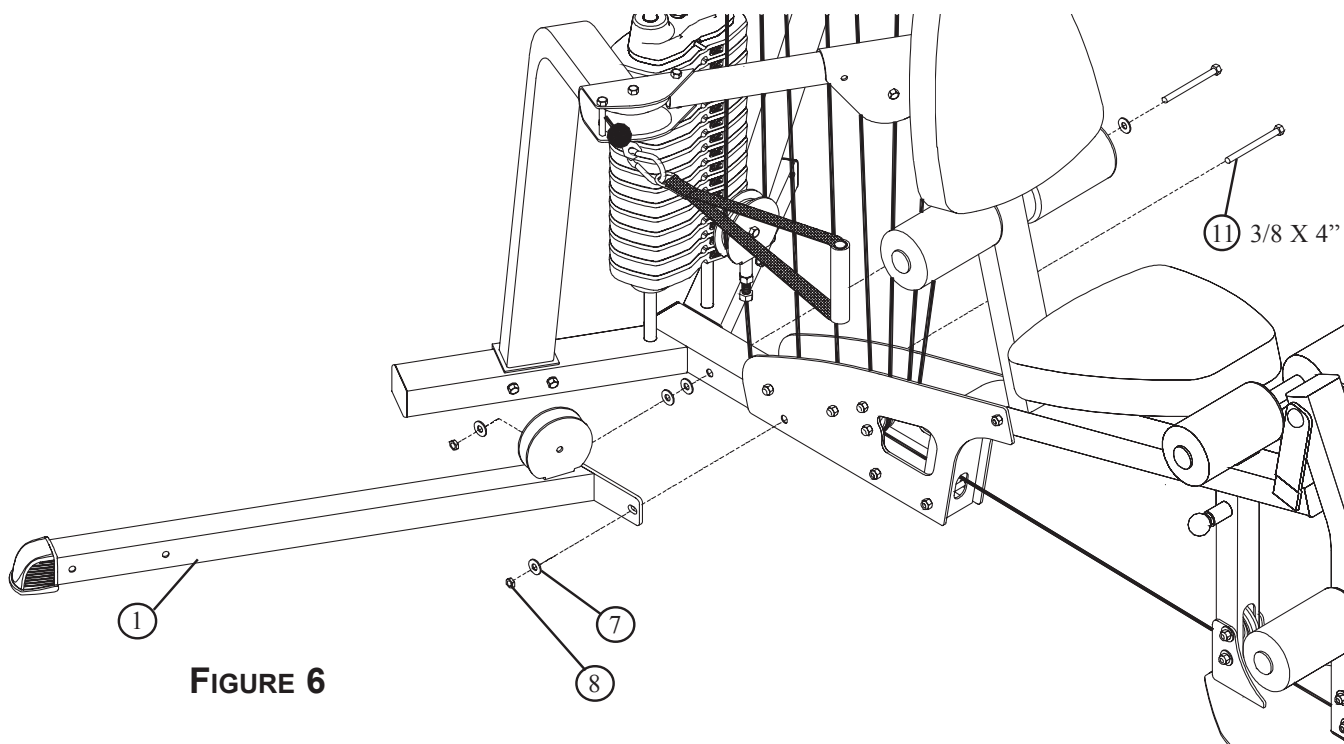

FIGURE 6
- **SECURELY** assemble the LEG PRESS ADAPTOR (1) to the G3 Gym System using two 3/8 X 4" BOLTS (11), five 3/8" WASHERS (7), one previously removed 3/8" LOCK NUT and one 3/8" LOCK NUT (8) as shown in FIGURE 6.